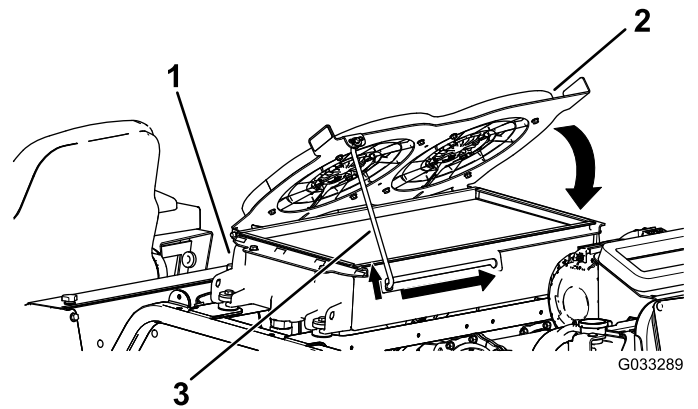

Figure 120
4. Pivot the hydraulic-cooling fans downward and lock the prop rod into the notch (Figure 120).